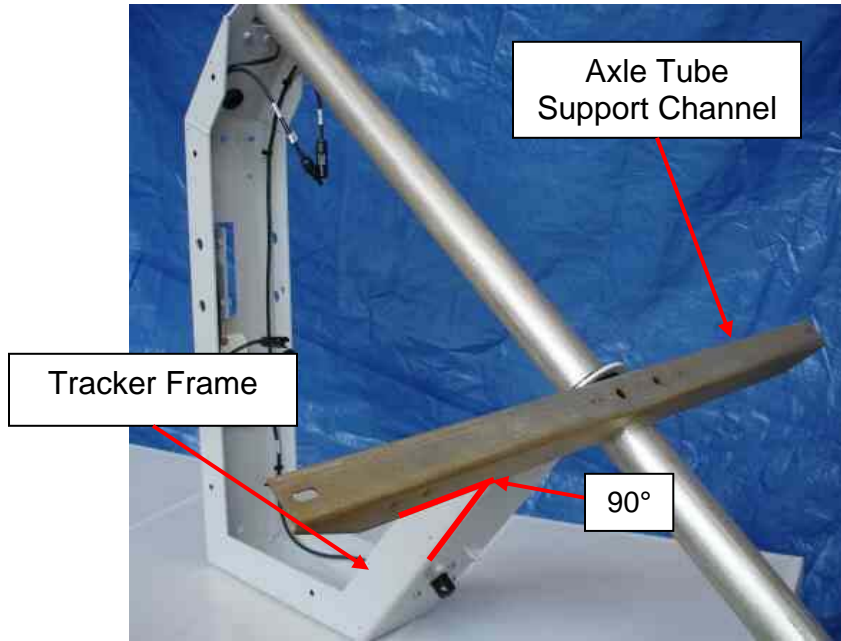

Figure 3
- Orient Tracker Frame Assembly as shown in Figure 3. Ensure Axle Tube Support Channel is approximately 90° to the Tracker Frame.